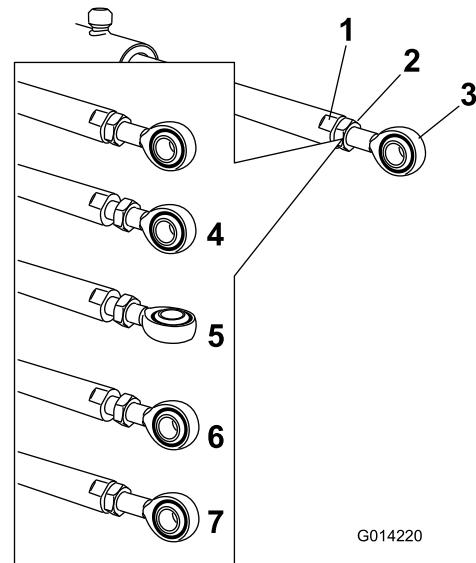

Figure 84
5. Use a wrench on the flat sides of the actuator rod to immobilize it, then loosen the jam nut to allow the eyelet rod to be manipulated (Figure 84).
6. Turn the eyelet rod in the actuator rod to shorten or lengthen the extended actuator to the desired position (Figure 84).